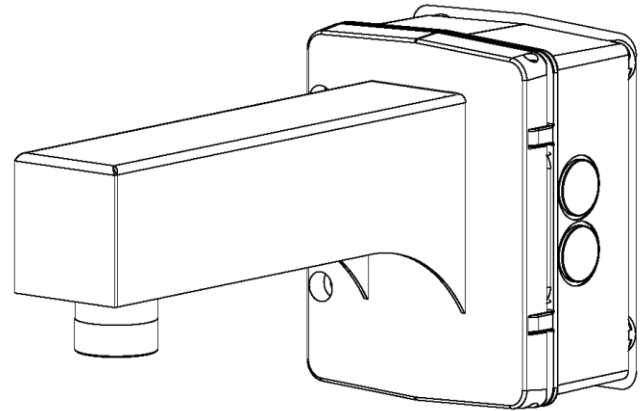

Figure 1 - BMT-PAN1
1. Unit ships pre-assembled as shown in Figure 1.
3. Four (4) mounting holes are provided. Select appropriate mounting hardware. **NOTE:** Fasteners used must have a minimum 200-lbs pull-out strength and must be stainless steel.